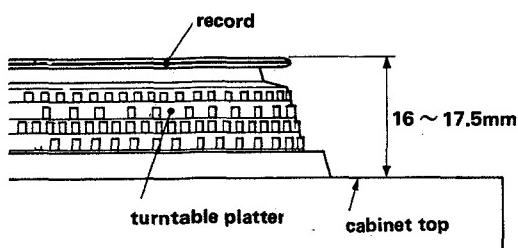

Fig. 4-2
2. Make sure that the record is 16 to 17.5 mm from the top of the cabinet (refer to Fig. 4-2).